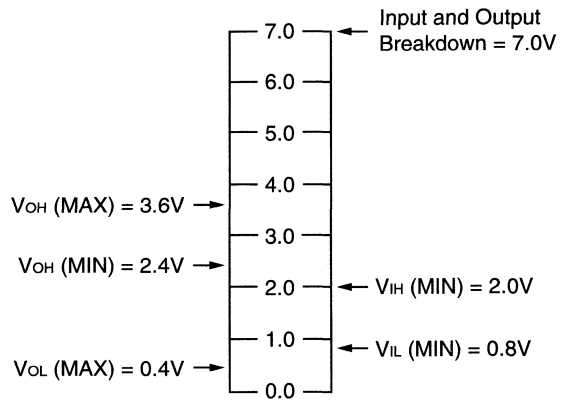

Figure 2
3.3V SRAMs can drive 5V TTL inputs directly. However, this can be done only if 3.3V levels are driven on the bus and $V_{DD} + 0.3V$ is not exceeded. Figure 2 shows how 3.3V output logic levels can be used to drive 5V TTL levels. These logic levels guarantee a minimum noise margin of 400mV when driving HIGH or LOW output levels (typical values provide more margin). 5V device inputs require a maximum V_{IL} of 0.8V, and 3.3V devices supply less than 0.4V. Similarly, inputs require a minimum V_{IH} of 2.0V and are supplied with 2.4V or greater.